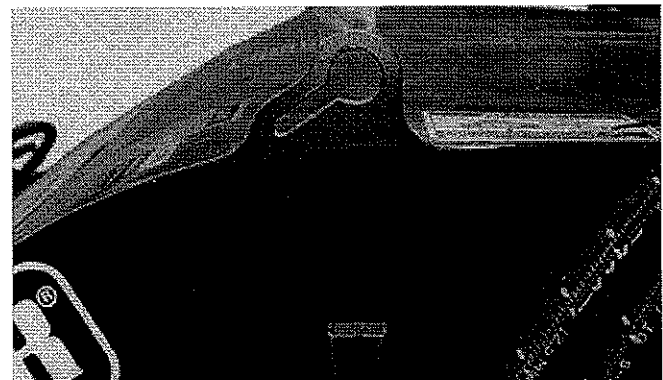

figure 23
9. Place the chain in the keyhole slot (figure 23) on top of the hood. The chain end goes to the outside. If desired, place the chain end inside the adjustment tube to reduce rattling.